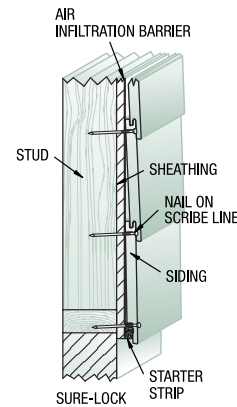

FIG. 4
- Although not recommended, where 24 in. o.c. vertical framing is used, wood-based sheathing is required. Follow product-specific nailing pattern (see Fig 4). Nail to framing 24 in. o.c. with intermediate nailing 12 in. o.c. to sheathing with a 6d galvanized ring shank nail or equivalent. This effectively creates a 12 in. o.c. nailing schedule.
- Sure Lock siding requires one nail per lap piece on all studs 16 in. o.c. Make sure each nail is placed precisely on the scored nailing guideline. (This ensures that the nail head is properly concealed and does not penetrate the interlock groove.) The top of the nail must be flush to insure ease of interlock during application. *See Fig 4.*